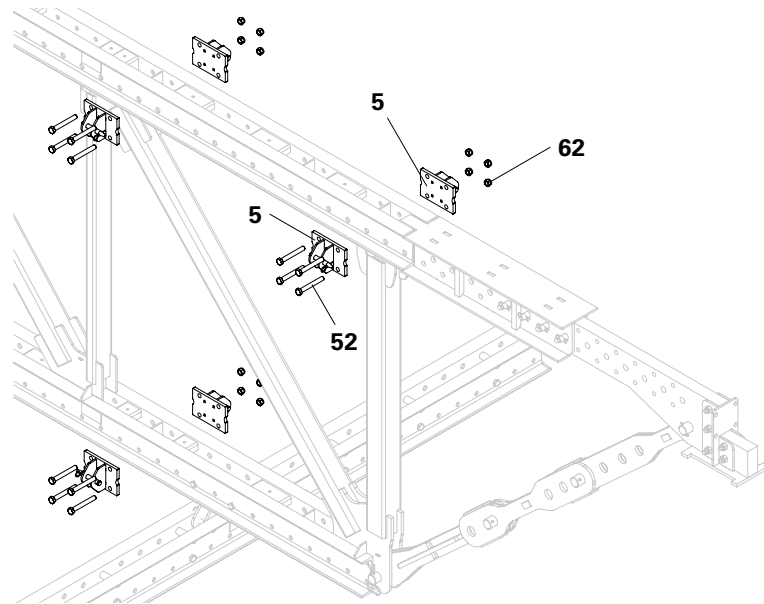

Fig. A3.04
- When connecting a single truss or truss package, a Coupling Shoe (5) must likewise be mounted on the rear. Mount this together with the Coupling Shoe (5) of the front side. (Fig. A3.04)